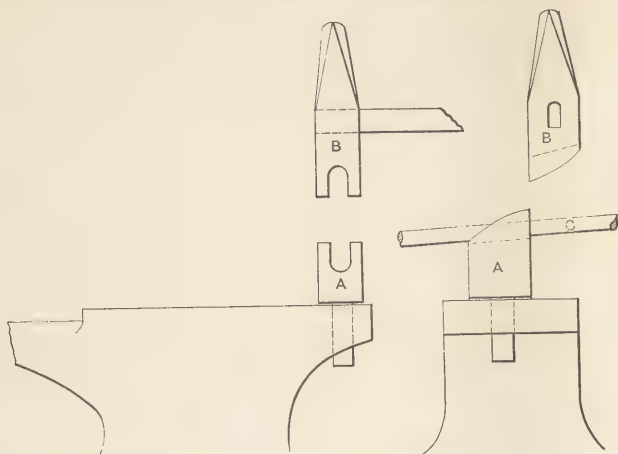

Fig. 7. Cutting-off Tools.
**Cutting Off Steel.**—Cutting-off tools for cutting off round steel on the anvil in the blacksmith shop are shown in Fig. 7. The bottom cutter is at *A*, the upper